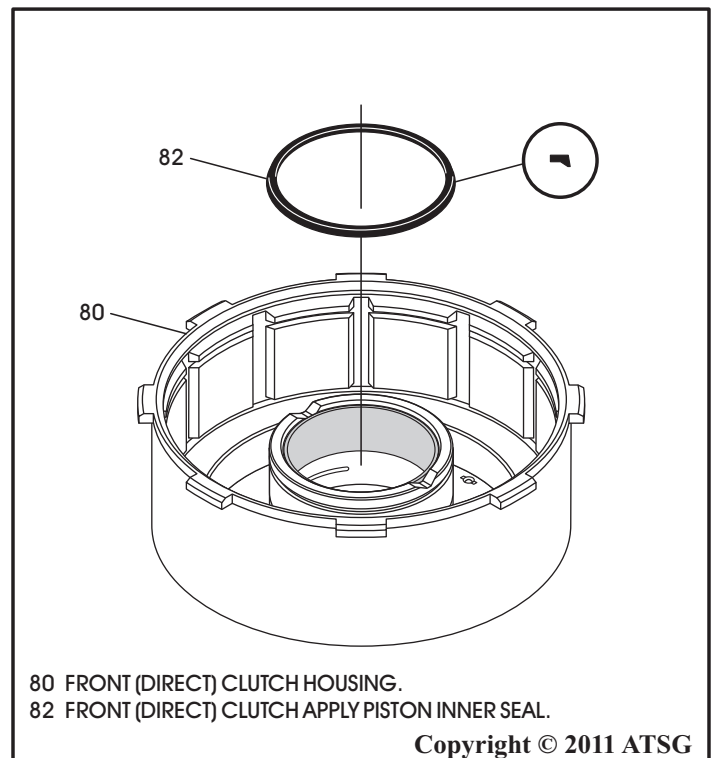

Figure 115
6. Install new inner lip seal into groove in the direct clutch housing, with lip facing down, as shown in Figure 115.